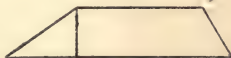

FIG. 20.
42. A **trapezoid** (Fig. 20) is a quadrilateral which has only two of its sides parallel.